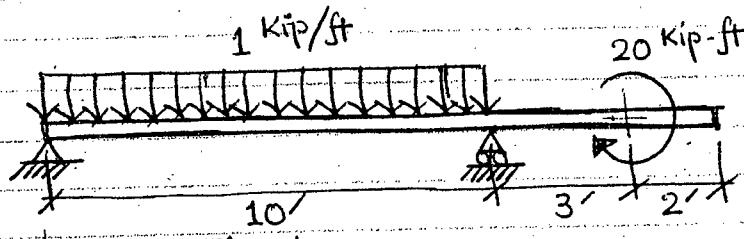

Fig. 1.
1. Draw axial force, shear force and bending moment diagram for the beam shown in Fig. 1. (14)